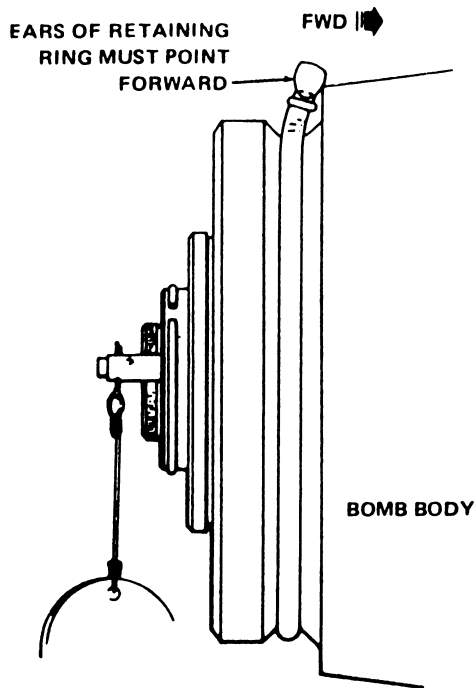

Figure 12-37.—Ears pointing forward at 12 o'clock position hole.
4. Place a silver-colored retaining ring (ink stamped 30003-2602857) in the aft V-groove of the bomb body with the ears pointing forward. (See fig. 12-37.)